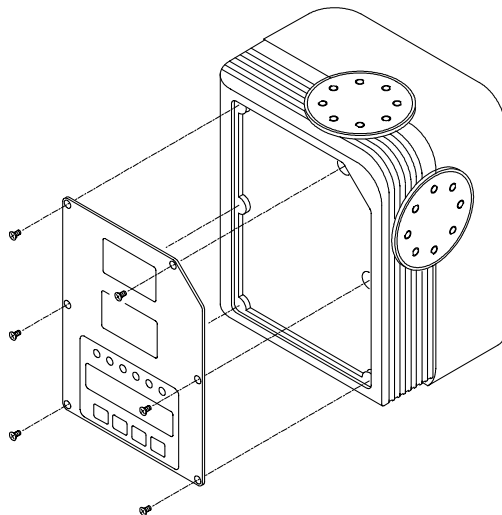

Figure 6 - Opening the DS8100
Refer to the following instructions and Figure 6 when opening the reader:
- 3- Carefully remove the panel as shown in Figure 6: